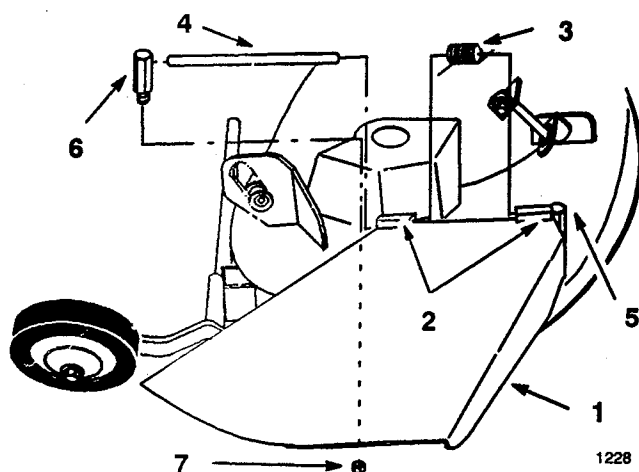

Figure 1
1. Remove existing discharge chute by removing nut on long stand-off and sliding rod out (Fig. 1).
4. Insert rod at front of discharge chute into short stand-off on deck. Secure rear end of rod to deck with long stand-off and nut (Fig. 1).